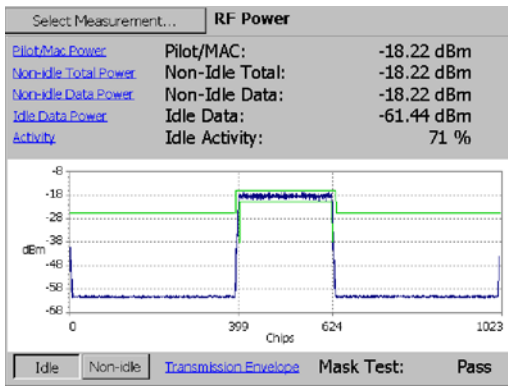

Figure 3-39: 1xEV-DO RF power measurement
7. Tap the **Idle** or **Non-Idle** button. See Figure 3-39. Table 3-15 describes the 1x-EVDO measurement fields.